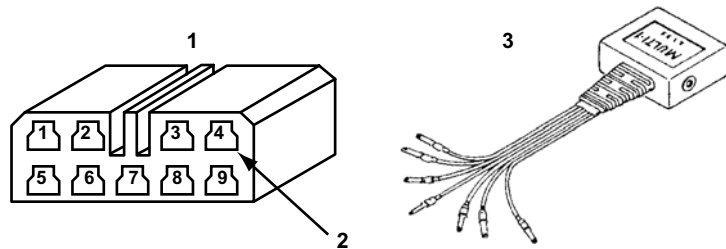

Figure 15-16 Yellow 9-pin Check connector
- Connect the blue wire of the MULTI-1 adapter to pin 4 of the Check connector (Figure 15-16).